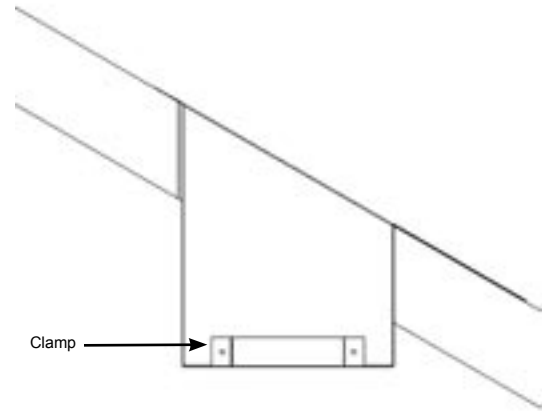

Figure 21
8. Place the Vertical Support Clamp (5000576), around the top of the hole in the bottom of the Support Box. See Figure 21.